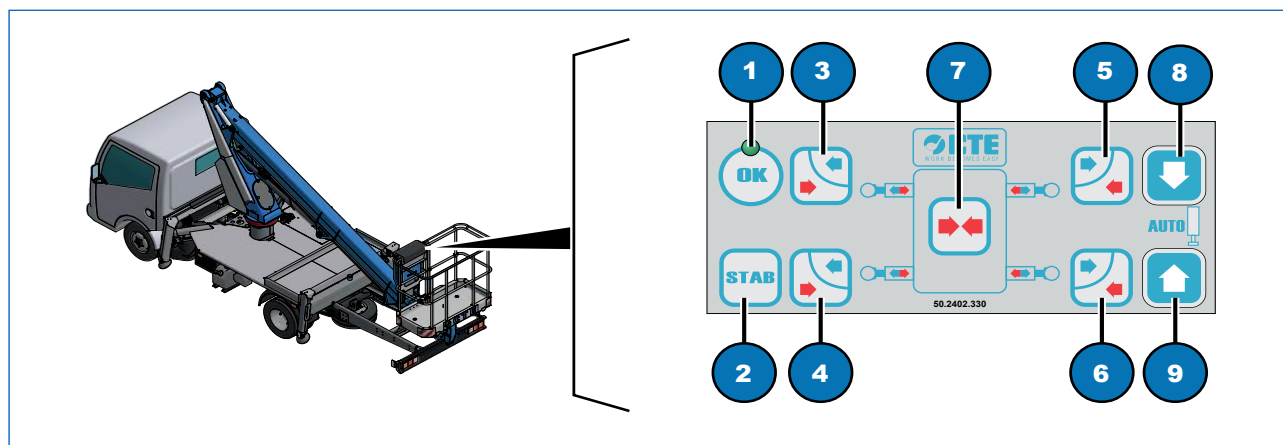

Fig. 15.3
The platform can be equipped with automatic stabilization which involves replacing the hydraulic distributor with an electro-hydraulic distributor, in a frame, and the assembly in the basket of an electric control panel (Fig. 15.3). The electro-hydraulic distributor allows the stabilizers to be operated both by means of levers and by an electric control.
### Procedure (Fig. 15.3):
- press the STAB button (Fig. 15.3, 2) to start the vehicle’s motor;
**Keep the STAB button (Fig. 15.3, 2) pressed for the entire time the elevating platform is being stabilised.**
**Release the button only once stabilised (OK LED, Fig 15.3, 1, lit up).**
- Extend the stabiliser beams by operating the buttons in turn (Fig. 15.3, 3, 4, 5 & 6). The same buttons (Fig. 15.3, 3, 4, 5 and 6) also control the retraction of the beams if pressed along with the central button (Fig. 15.3, 7).
- Extend all stabiliser beams by pressing the button (Fig. 15.3, 8) so as to lift the vehicle and take the weight off the suspension;
- Check that the indicator light is on (Fig. 15.3, 1), indicating the proper stabilisation of the vehicle.